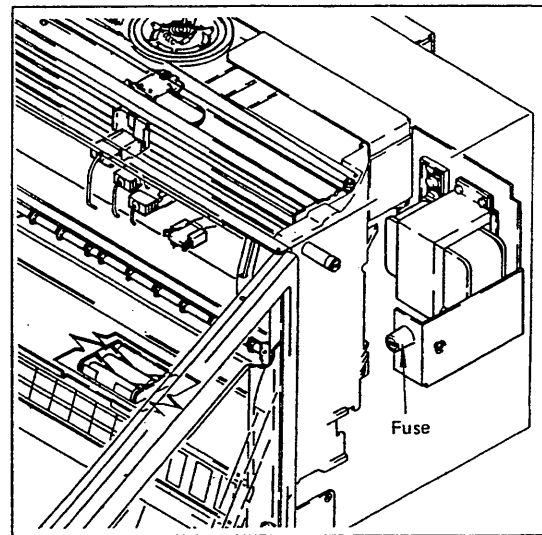

Figure 6-3. Fuse Removal.
- (3) Using a flat-blade screwdriver, counterclockwise turn the fuse holder carrier (located on the right side of the recorder interior) and remove the fuse with the carrier (see Figure 6-3). Replace it with a new one with the correct rating.